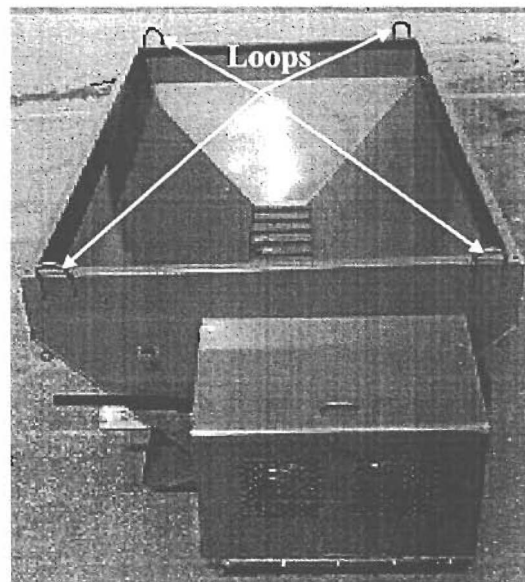

Figure 5
**High Capacity:** Lift spreader by hooking all four loops located at the corners of the hopper. See Figure 5.